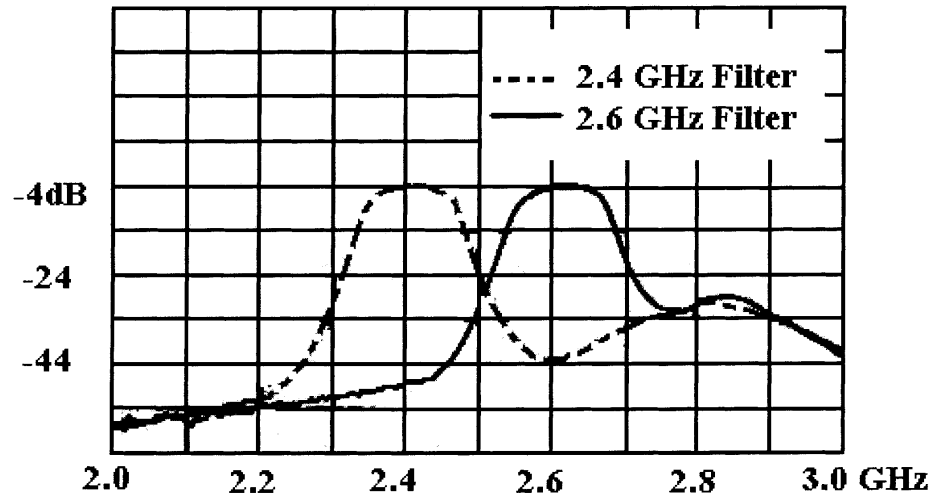

Figure 3. Filter characteristics for FSK design.
- Incorporate 2.4 and 2.6 GHz band-pass filters with specifications given in the project for 431/531 (see Figure 3 for filter characteristics)